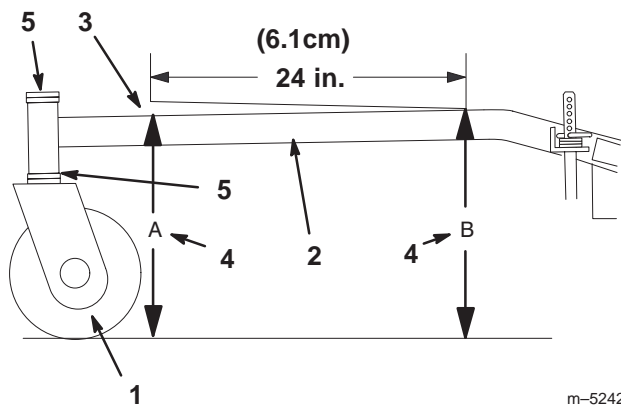

Figure 50
1. Measure out 24 inches (6.1 cm) on the carrier frame (Fig. 50).
2. Measure carrier frame height at location **A** (Fig. 50).
3. Measure carrier frame height at location **B** (Fig. 50).
4. The height at location **A** must be a 1/4–3/8 in. (6 mm – 10 mm) lower than location **B** (Fig. 50).
5. If the carrier frame is not correct, move caster spacers to make it a 1/4–3/8 in. (6 mm – 10 mm) pitch (Fig. 50). Move spacers from top or bottom to make the correct pitch.